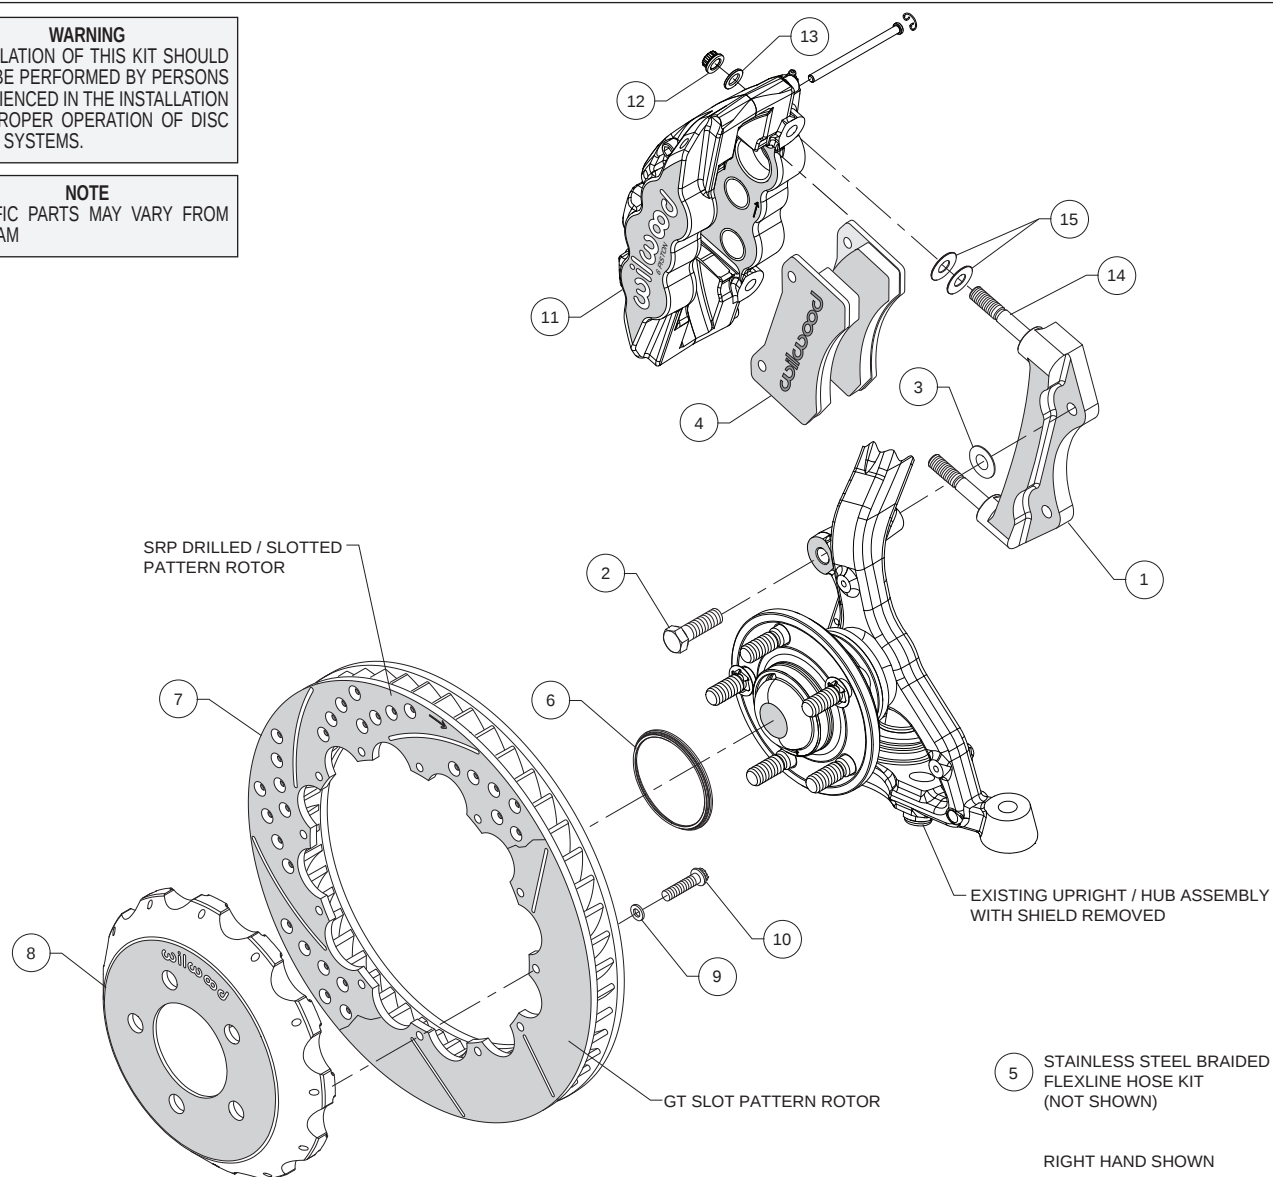

Figure 1. Typical Installation Configuration
Assembly Instructions (numbers in parenthesis refer to the parts list and Figure 1 on the preceding pages):
- The caliper mount bracket (1) should initially be installed with clean, dry threads on the mounting bolts. Orient the bracket as shown in Figure 1 and Photo 1 and install using mount bolts (2). Initially place one .029" thick shim (3) on each bolt between the bracket and upright, Figure 1. Temporarily tighten the mounting bolts. **NOTE:** The bracket must fit squarely against the mount bosses on the upright. Inspect for interference from casting irregularities, machining ridges, burrs, etc. Later, after the caliper alignment has been checked, the mount bolts will be secured using red *Loctite*® 271.
- NOTE:** This kit contains distinct right and left hand calipers that must be mounted in a specific direction, as described below. Lubricate the caliper mounting studs (14) with lightweight oil. Initially place two .030" thick shims (15) on each stud between the caliper and the bracket, as shown in Figure 1 and Photo 4. Mount the caliper (11) onto the bracket (1) using lock nuts (12) and washers (13), Figure 1. Temporarily tighten the lock nuts. Ensure that the caliper is mounted so the largest pistons are at the rotor exit end of the caliper, in relation to the direction of the rotor. View the rotor (7) through the top opening of the caliper. The rotor should be centered in the caliper, Photo 5. If not, adjust by adding or subtracting shims (3) between the bracket and the upright. Always use the same amount of shims on each of the two mounting bolts. Once the caliper alignment is correct, remove the bracket mounting bolts one at a time, apply red *Loctite*® 271 to the threads, and torque to 77 ft-lb.
- Remove the two pad retaining pins from the caliper (11) by carefully popping out the pin retaining clips and sliding out the pins. Insert the brake pads (4) into the caliper from the bottom, Figure 1 and Photo 6. With the friction material facing the rotor,